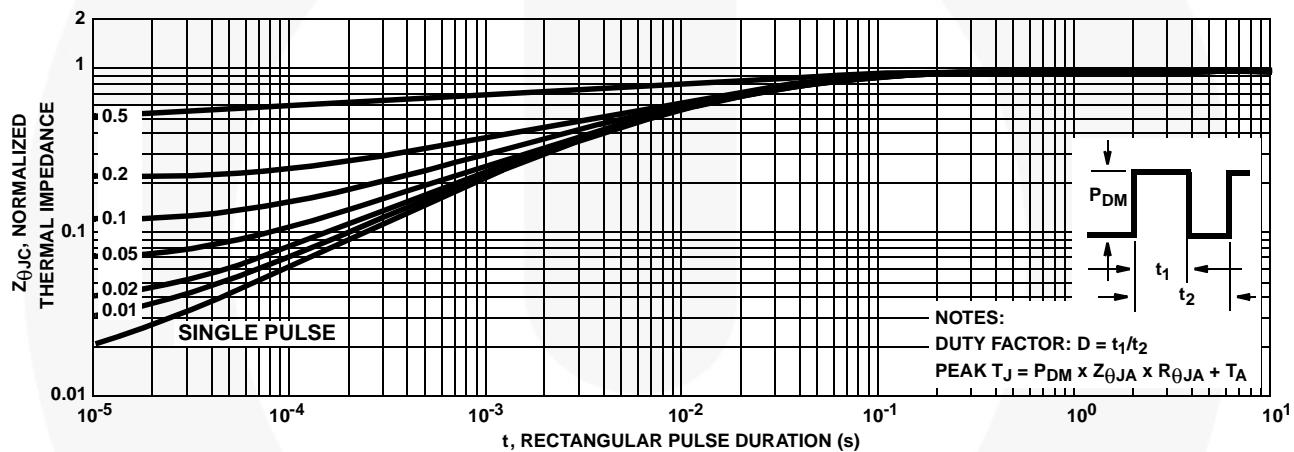
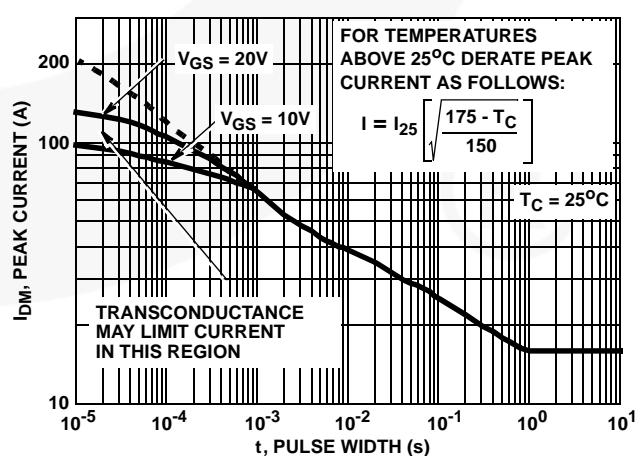

FIGURE 3. NORMALIZED MAXIMUM TRANSIENT THERMAL IMPEDANCE
FIGURE 5. PEAK CURRENT CAPABILITY
| Pulsed Avalanche Rating | E_{AS} | Refer to Figure 5 | |
3. Repetitive rating: pulse width limited by maximum junction temperature. See Transient Thermal Impedance curve (Figure 3) and Peak Current Capability Curve (Figure 5).